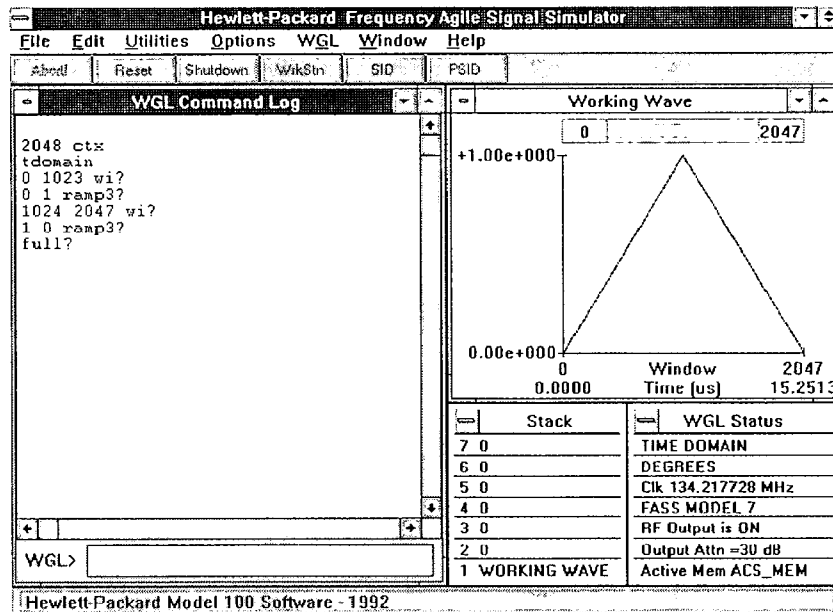

Figure 2-11. User Pattern Created in WGL
3. Type FULL? in the WGL command line. This displays the user pattern that was just created in the WGL Working Wave (Figure 2-11).